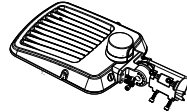

Figure 3
2.ADJUSTABLE FITTER MOUNTING (AM)
- Step 1: Remove the bracket mounting screws on the fixture and run the wires through the bracket. (Figure 3)